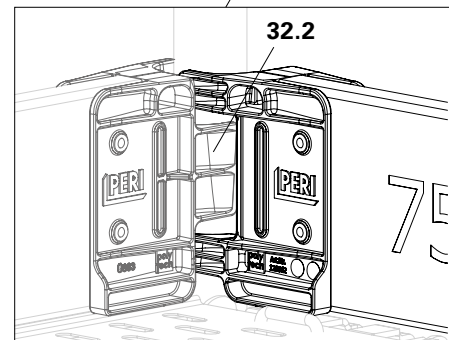

Fig. A5.07c
- For corners, turn the toe boards so that the retaining lugs (32.2) of the end pieces engage with each other. (Fig. A5.07c)